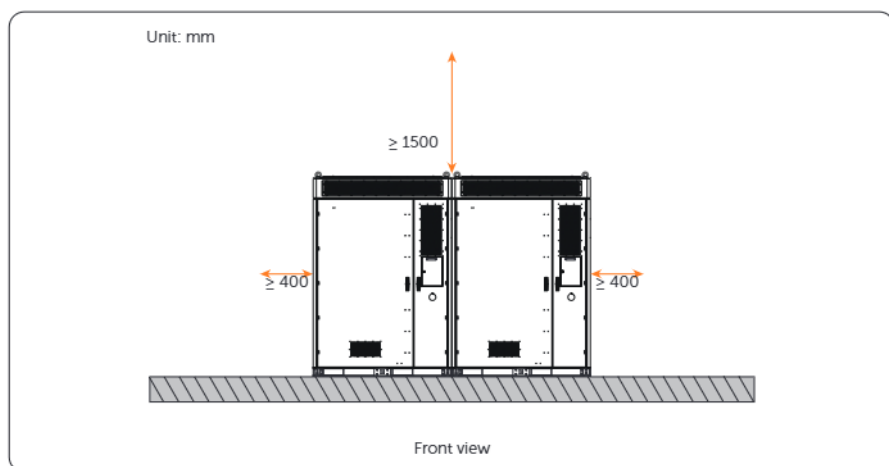
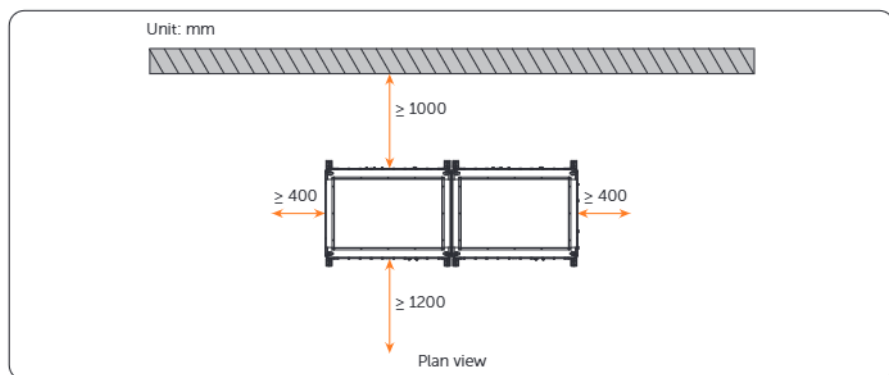

Figure 4-11 Two and more cabinets
Figure 4-12 Two and more cabinet
- Multiple cabinets (see Figure 4-11 and Figure 4-12)